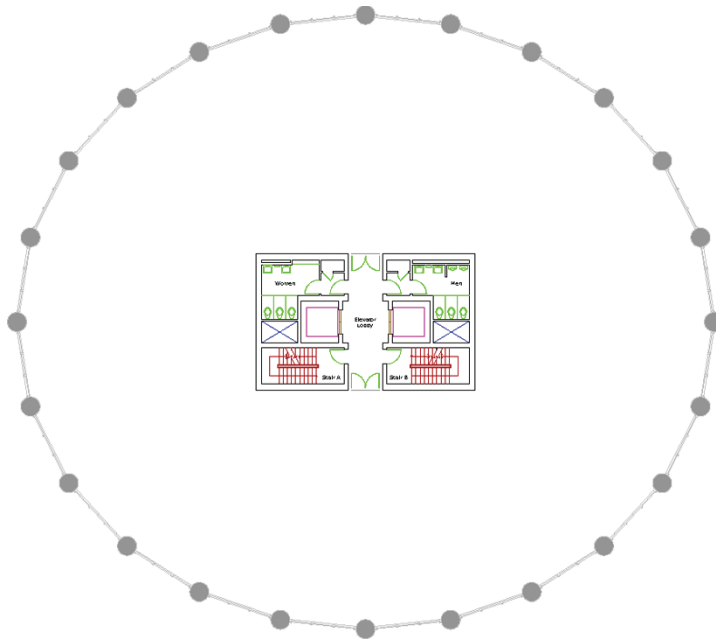

FIGURE 9.24 Core and shell drawing
1. Go to the book's web page, browse to Chapter 9, get the file Ch9-Core Shell.dwg, and open it. Figure 9.24 shows the building core and shell.